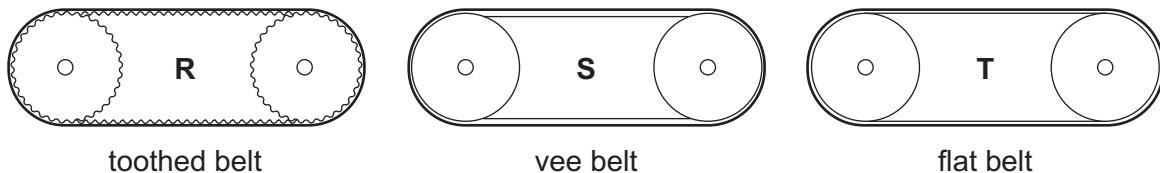

Fig. 11.1
- 11 (a) Fig. 11.1 shows three methods of transmitting motion from one shaft to another.